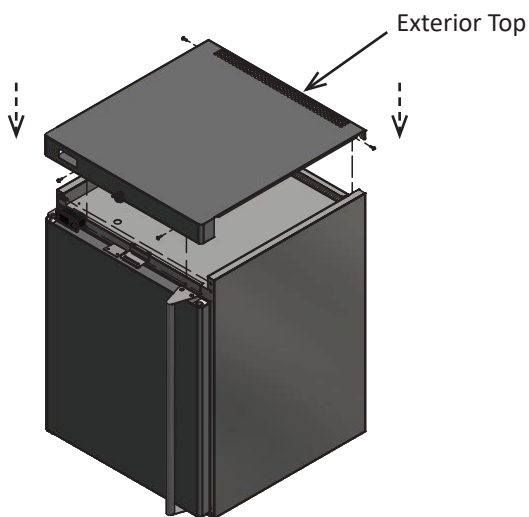

FIG. 7
Step 5. Finally attach the Exterior Top. See figure 7.